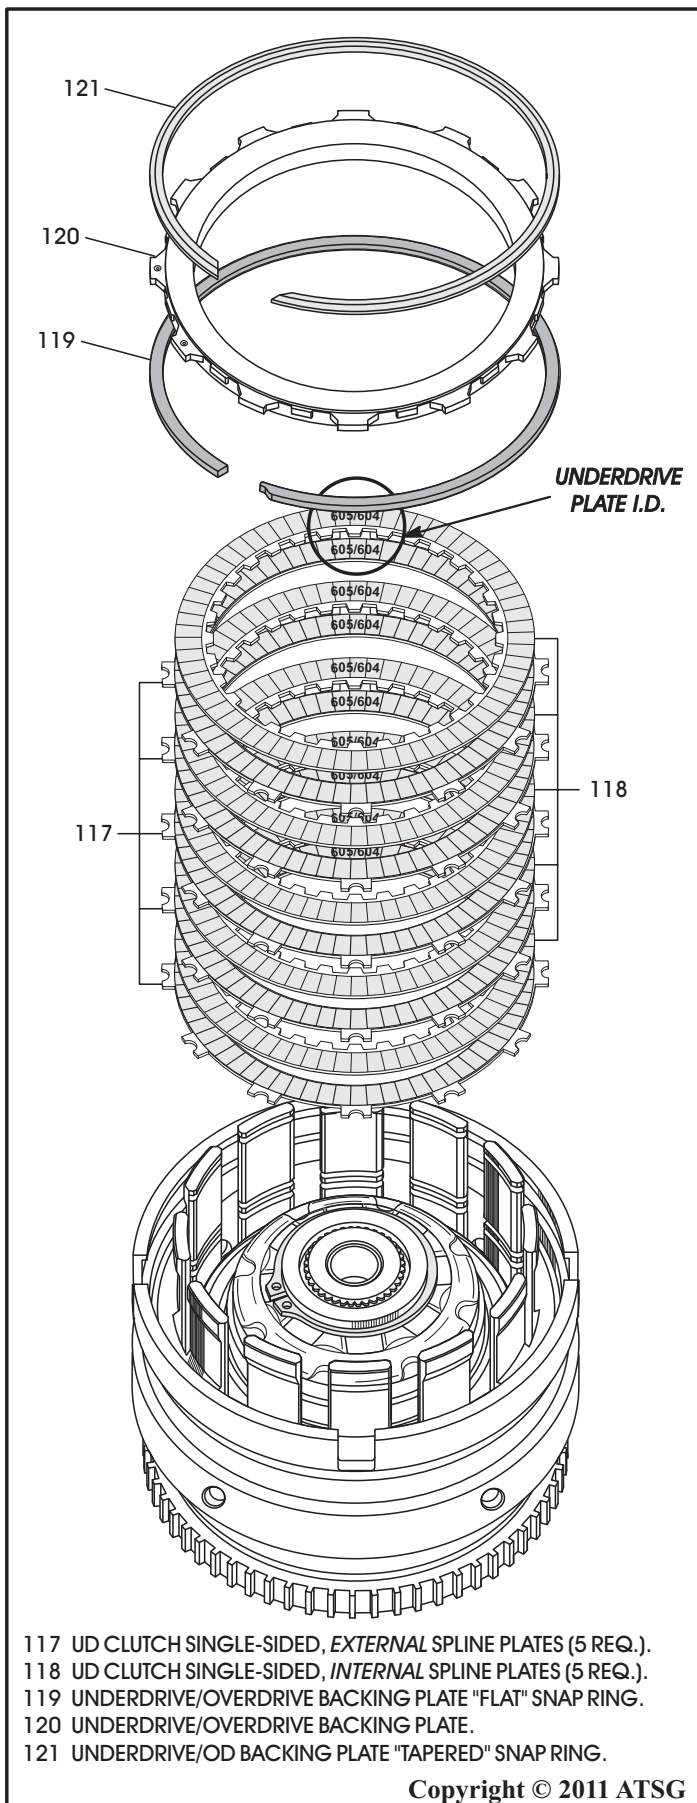

Figure 101
Special Note: The 68RFE underdrive plates, both inside and outside spline plates, can be identified by numbers "605/604" laser-burnt into friction material facings (See Figure 101).
21. Install the "single-sided" underdrive clutch pack beginning with an outside spline plate with the lining facing up and alternating with the inside spline plates with lining facing up, as shown in Figure 101 (5 of each are required).
22. Install the underdrive/overdrive backing plate lower **flat** snap ring into the housing in the lower groove, as shown in Figure 101.
23. Install the underdrive/overdrive backing plate into the input clutch retainer, with the big step facing down, as shown in Figure 101.